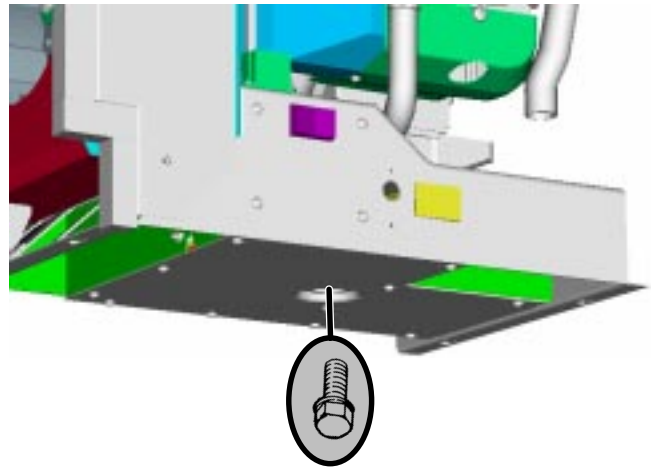

FIGURE 11. OIL DRAIN PLUG
2. Place a pan under the oil drain plug and remove the plug (Figure 11) with a 14 mm socket. Let all oil drain from the engine and then **secure the drain plug**.